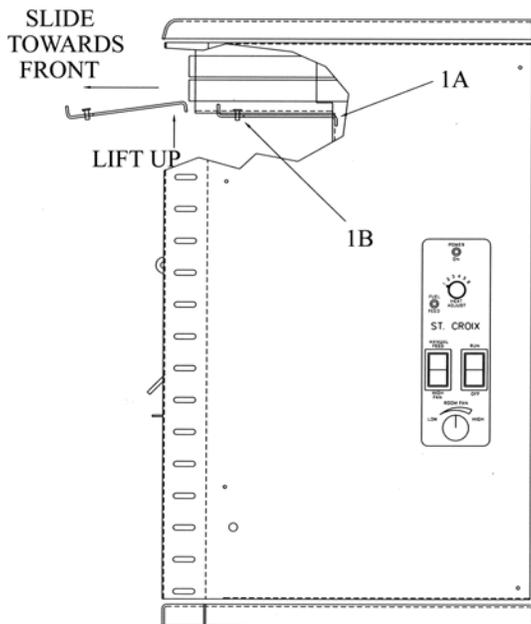

Figure 5
4. Remove the baffle and clean the ashes that accumulate on a regular basis. Once a month or sooner, depending on the quality of fuel being used (*See figure 5 on page 9.*)
Figure 5 shows how the baffle is removed from the stove. Clean the baffle on a regular basis. Frequency of cleaning depends on amount of fuel being burnt and the quality of the pellets. Fuel with low ash content is recommended. **Failure to clean the baffle can cause the stove to become plugged with fly ash.**